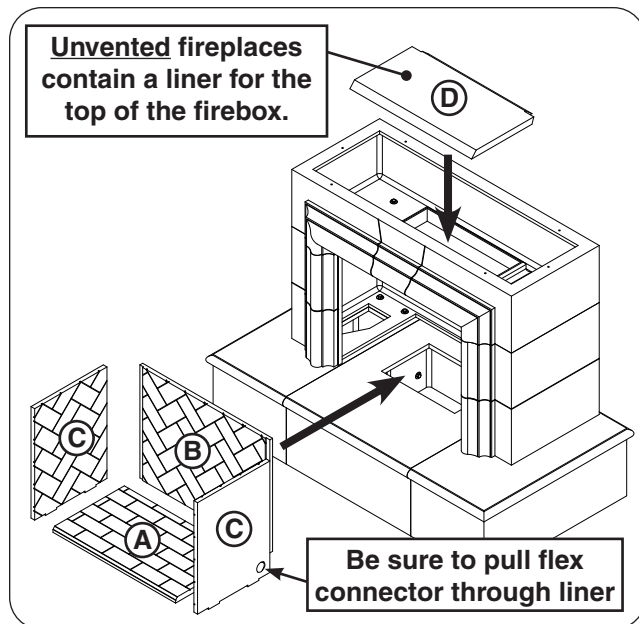

Fig. 25-1 Install firebox liners
1. Install the firebox liners into the interior of the firebox in the order shown in Fig. 25-1.